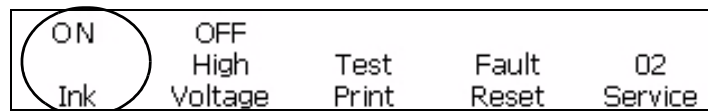

Figure 4-51: On Ink
- 4 Perform a Quick Start. See Figure 4-51(01 Edit > 02 Edit > 03 Edit > 04 Edit - Service Printer> 01 Service > 02 Service).